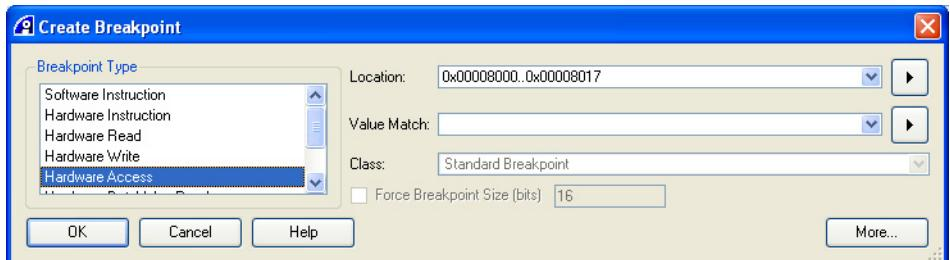

Figure 11-32 Create Breakpoint dialog box showing selected address range
7. Select **Create Breakpoint At...** from the context menu to display the Create Breakpoint dialog box. Figure 11-32 shows an example: